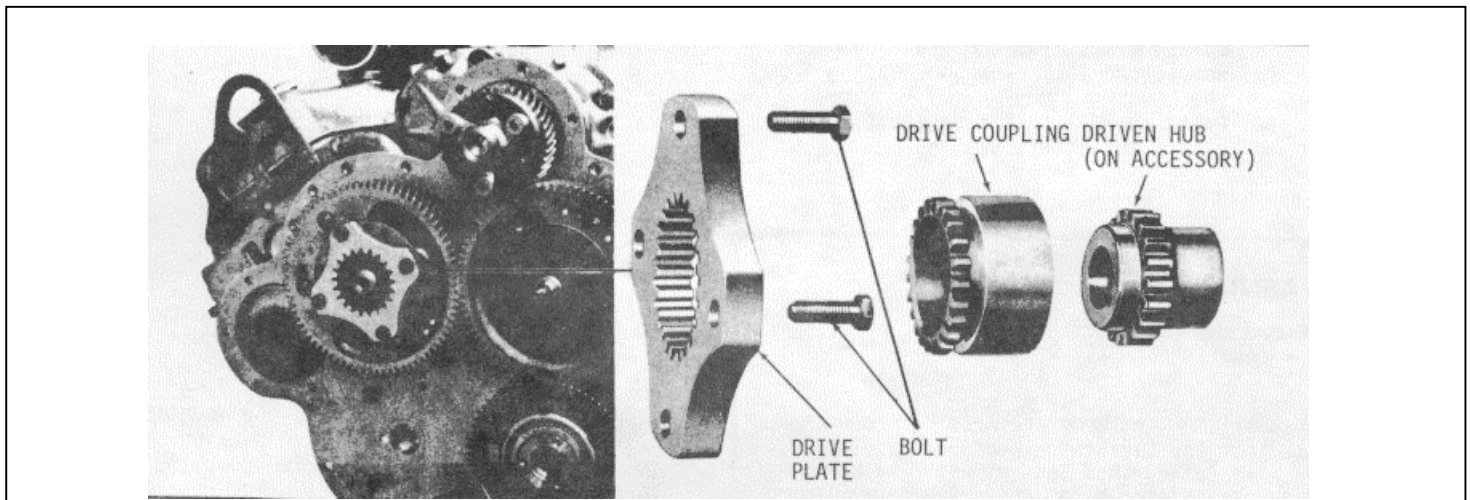

Fig. 2
Inspect the ball bearing used to support the accessory drive shaft shown in Fig. 2. Shielded bearings must not be washed; dirt may be washed in and the cleaning fluid could not be entirely removed from the bearing. Wipe the outside of the bearing clean, then hold the inner race and revolve the outer race slowly by hand. If the bearing is worn or does not roll freely, replace the bearing.
If an accessory drive plate is used, refer to Fig. 2 and proceed as follows:
- (2) Install the drive coupling (Fig. 2) and proceed as follows: